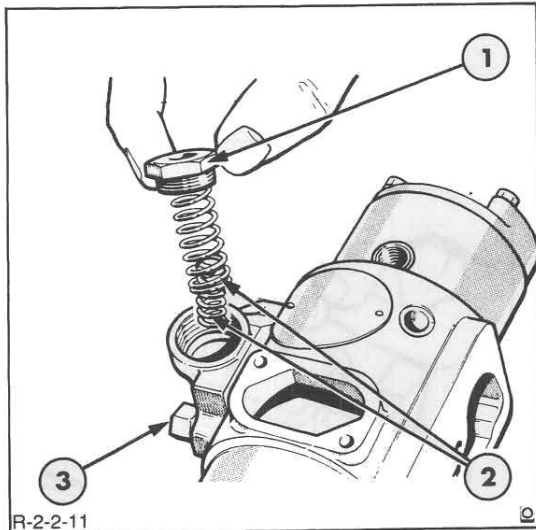

Figure 11
- (ii) Remove the spring and cap and withdraw the advance springs, Figure 11. Remove the cap nut and washer.